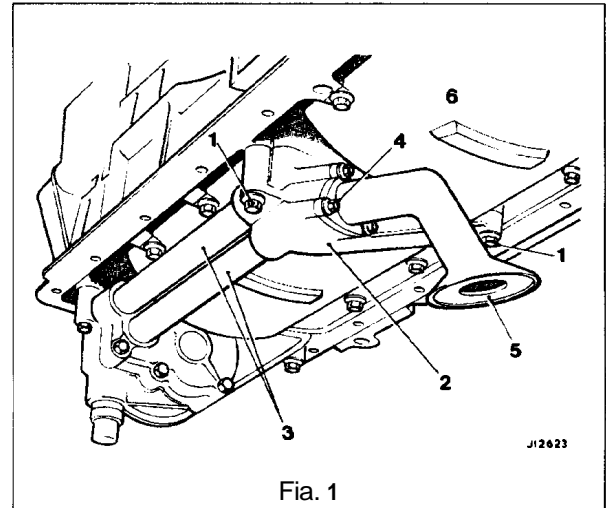

Fig. 1
- Remove the windage trays securing bolts. Remove the windage trays (6 Fig. 1).
- Insert each new piston ring into the cylinder bore (1 Fig. 1) ensuring they are square in the cylinders and check the gap using a strip gauge (2 Fig.1).